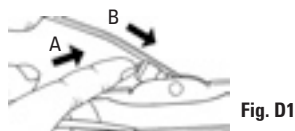

Fig. D1
Remove blade from wiper arm (Fig. D1) by pushing up on lever (A) and sliding arm forward (B).